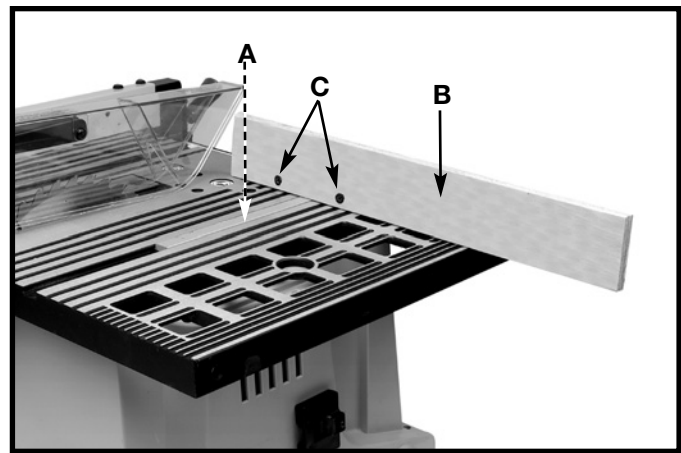

Fig. 39A
For added safety and convenience the miter gage (A) can be fitted with an auxiliary wood-facing (B), as shown in Fig. 39A, that should be at least 1 inch higher than the maximum depth of cut, and should extend out 12 inches